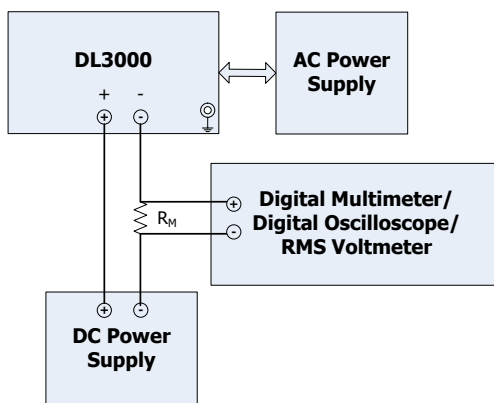

Figure 2-1 CC Test Connection
Before performing the test, select the appropriate AC voltage via the "AC Selector" on the rear panel of the electronic load according to the AC voltage standard of your country (230 Vac is taken as an example in all the tests in this manual). At room temperature (25°C), connect the recommended devices specified in "**Recommended Test Devices**" according to the connection method in Figure 2-1. During the test process, please set the AC voltage according to the selected voltage in "AC Selector" on the rear panel of the electronic load.
1. Power off DL3031A. Connect DL3031A, AC power supply, DC power supply, a current sampling resistor (with a resistance R_M 0.01 Ω), and a digital multimeter according to Figure 2-1 (Pay attention to the connection method for the current sampling resistor, the channel input terminals of DL3031A, and the digital multimeter). Connect the USB DEVICE interface on the rear panel of the electronic load to the PC via the USB cable.